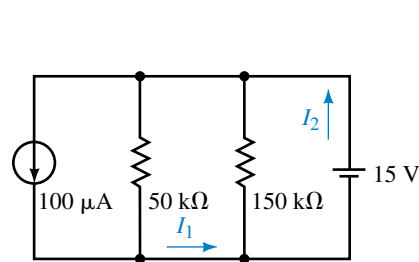

FIGURE 8-68
5. For the circuit of Figure 8-68, find the currents I_1 and I_2 .
7. Verify that the power supplied by the sources is equal to the summation of the powers dissipated by the resistors in the circuit of Figure 8-68.